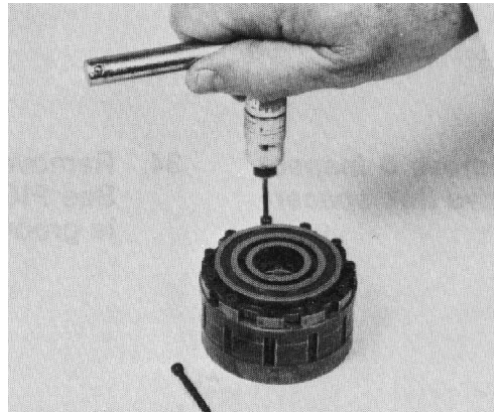

Figure 45
27. Remove the eleven hex socket head screws, that hold the metering package together (Fig. 45). Use a 3/32 in. allen wrench. Inspect the screws for thread and socket damage and replace as necessary.